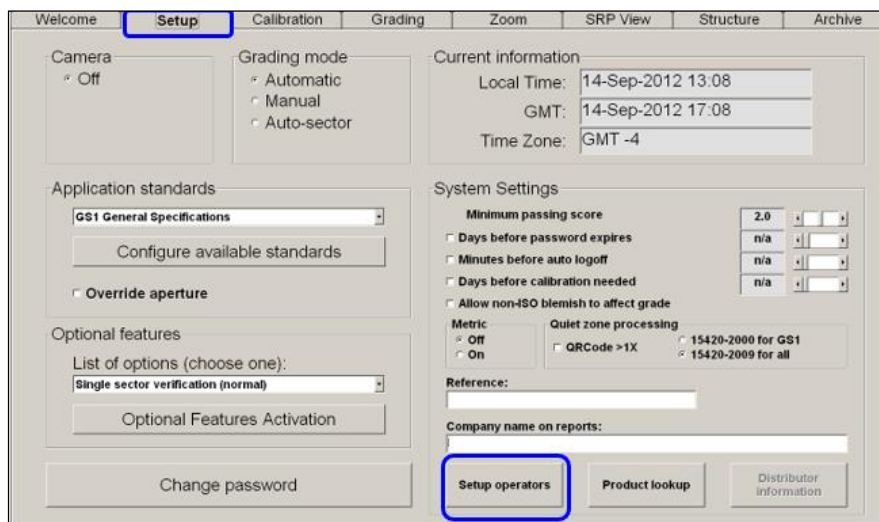

Figure 54: Click "Setup operators" on the "Setup" tab
6. Click the **Setup** tab, and then click **Setup operators** (Figure 54).